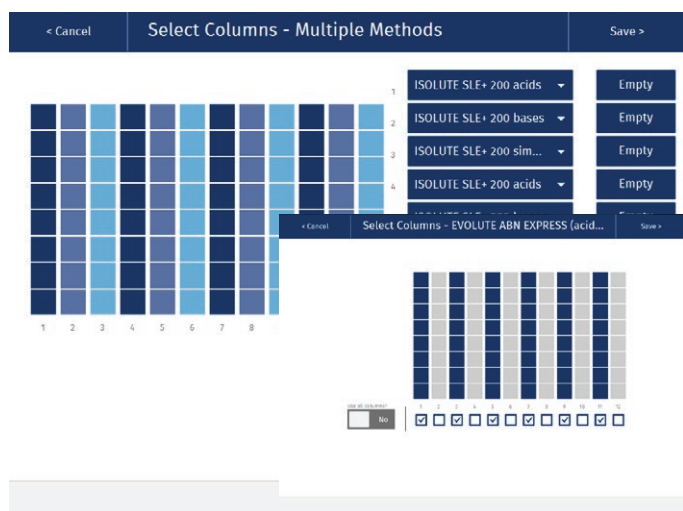

Figure 24. The Select Columns view when running multiple methods (seen in the back) and when running a single method (seen in the front).
12. Press the illustration of the extraction plate or column rack, and then set up each plate/rack in the **Select Columns** view (see Figure 24):